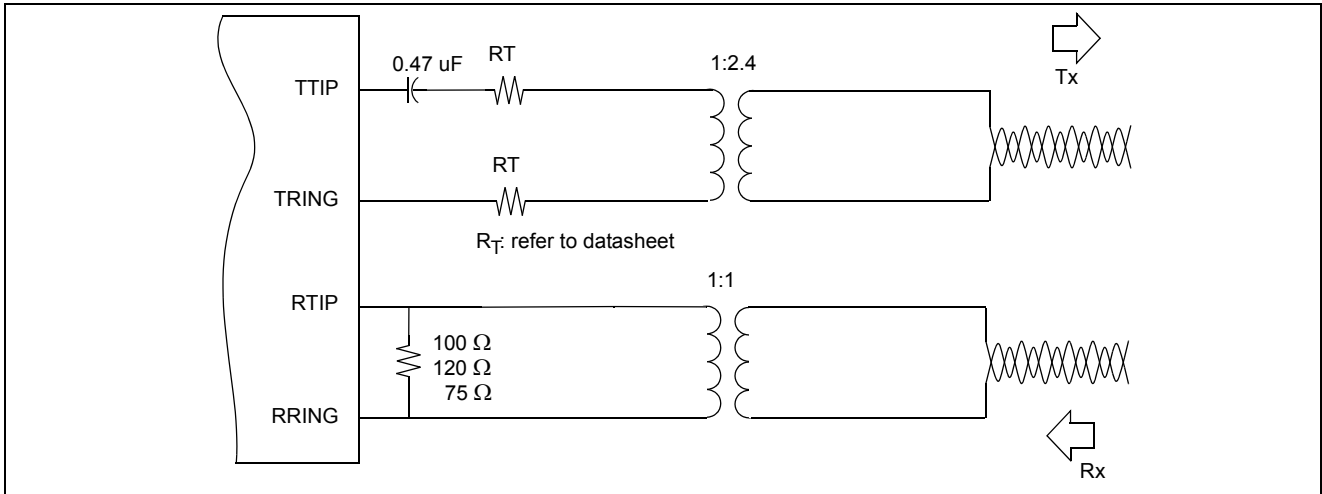

Figure 5 - Analog Line Interface
The complementary line drivers are designed to drive a 1:2.4 step-up transformer in T1 mode and either a 1:2 or 1:2.4 step-up transformer in E1 mode (see Figure 5). A 0.47  $\mu\text{F}$  capacitor is required between the TTIP and the transmit transformer. Resistors  $R_T$  (as shown in Figure 5) are for termination for transmit return loss. The values of  $R_T$  may be optimized for T1 mode, E1 120  $\Omega$  lines, E1 75  $\Omega$  lines or set at a compromise value to serve multiple applications. Program the Tx LIU Control Word (page 02H, address 11H) to adjust the pulse amplitude accordingly.
**Table 3 - Maximum Curve for Figure 5**
**Table 4 - Minimum Curve for Figure 5**